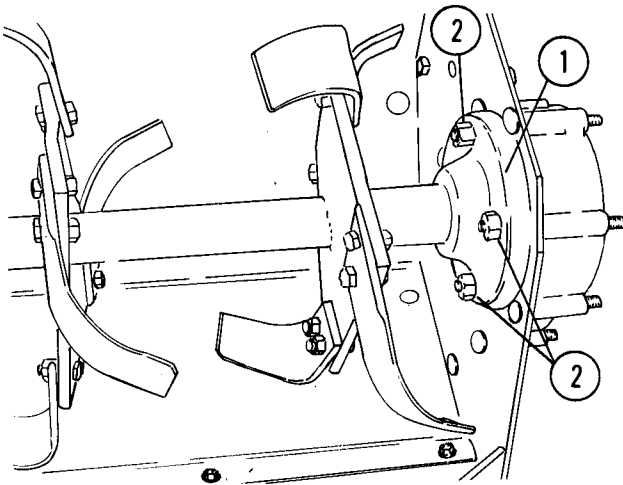

Fig. 24 — Tine Shaft (R.H. Side)
1. Remove 4 nuts holding dust cap, Figure 24.